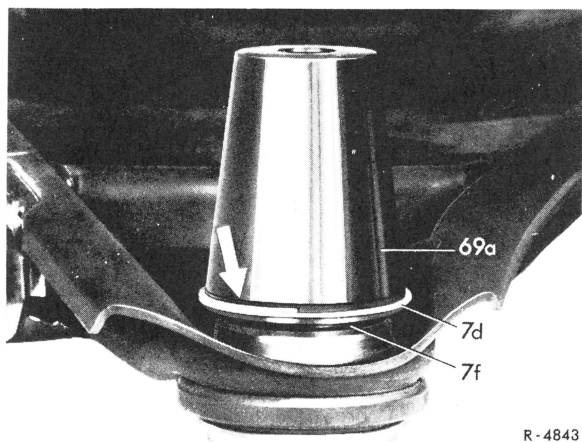

Fig. 5
- 5 Slide circlip (7d) on suitable assembly boot (69a) in such a manner that the cylindrical portion of the boot (refer to arrow) is attained (Fig. 5).
6 Place assembly boot on supporting or guiding joint in such a manner that the groove for the seat of the circlip on sleeve remains just free. Then slide circlip on sleeve of joint (Fig. 5).